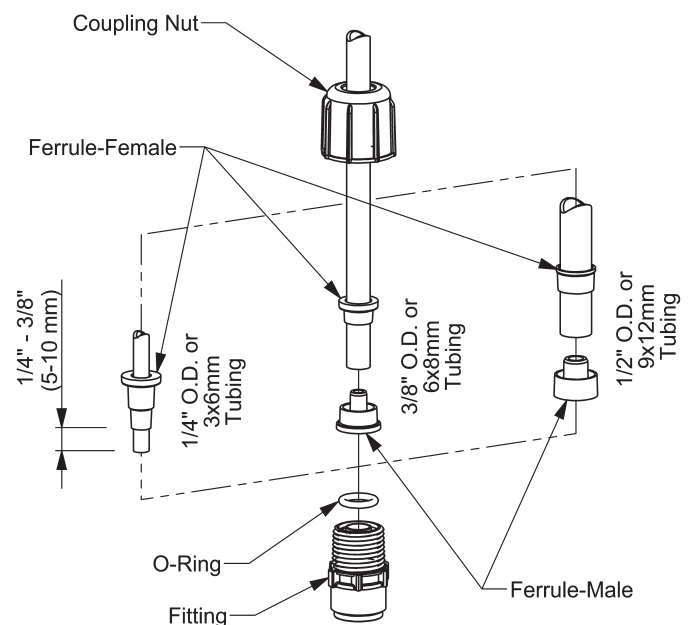

FIGURE 2
B. CONNECTING DISCHARGE TUBING (FIGURE 2)